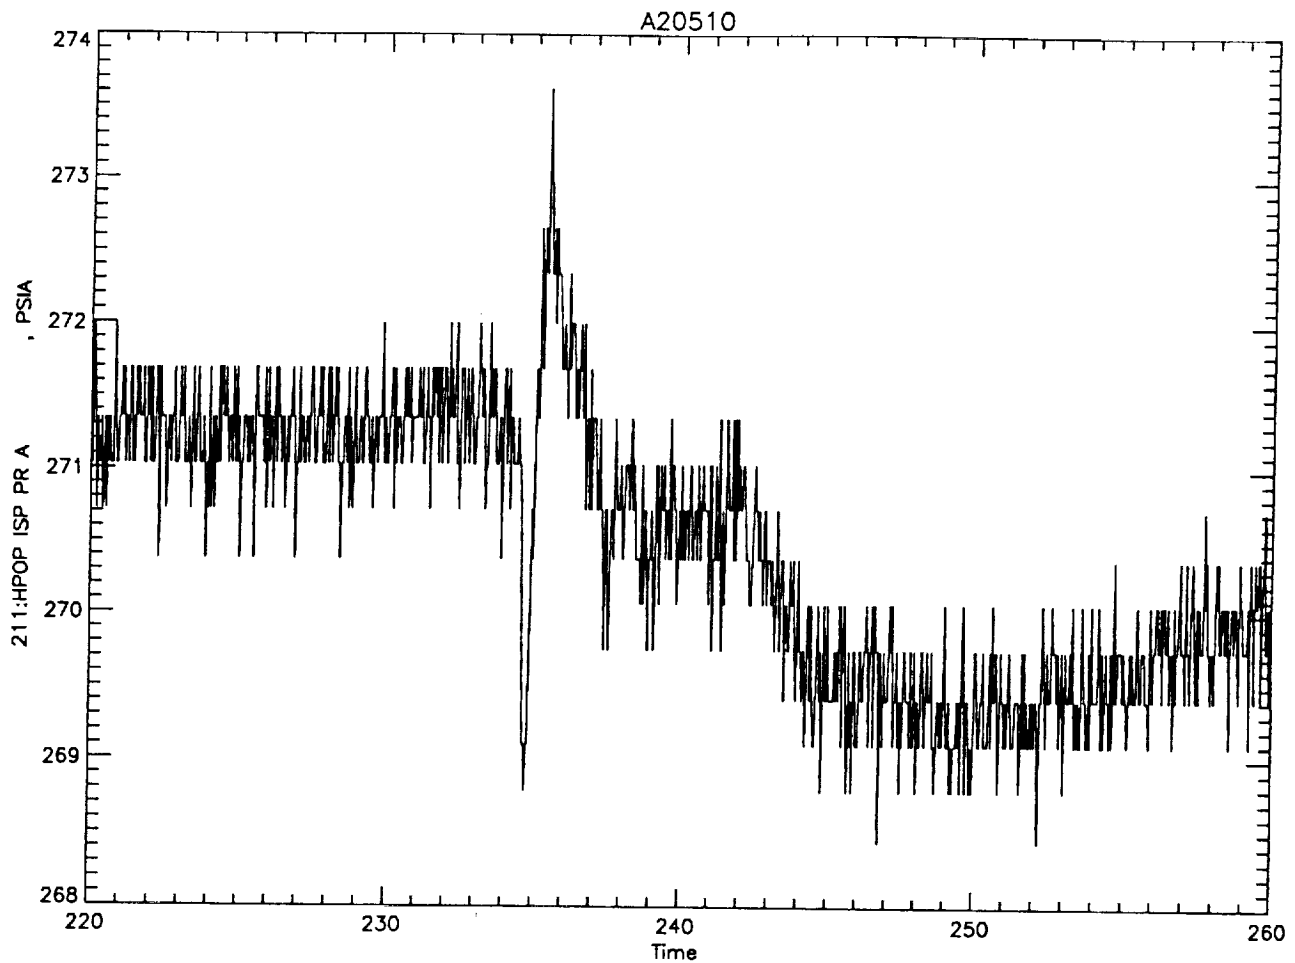

Figure 3. Example of Nose Seal Leakage
- **Sensor Validation and Redundancy Management** — Before the HPOTP module can perform anomaly detection it must first determine if the sensor data it is analyzing is valid. The original approach to sensor validation involved a simple voting scheme in which one sensor from each set of redundants was selected based on the number of “unusual” features it produced (e.g., spikes, noise, etc.). The new approach first attempts to disqualify sensors based on detection of “hard” failures (via reasonableness limits, non-variation during the firing, excessive noise, and majority voting of redundants), but then uses all remaining redundant sensors to vote on detected features. For example, nose seal leakage is indicated by a small spike in intermediate seal discharge pressure (see Figure 3). In the old approach, one of the two sensors (211 or 212) would have been selected semi-arbitrarily, and then checked to see if any spikes were indicated. In the new approach, both 211 and 212 are checked for spikes, and the results are cross-checked to see if both sensors agree. Anomalies are only reported if two or more redundant sensors agree on the indications. This has greatly reduced the false alarm rate of the system.
- **Nose Seal Leakage** — Rules were added and the spike feature extraction routine modified to detect “nose seal leakage” (see Figure 3).